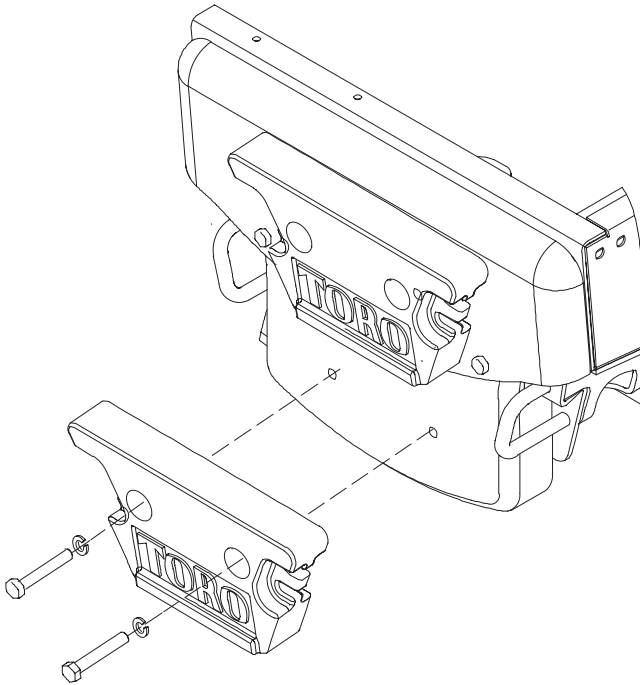

Figure 4
3. Use the lower set of tapped mounting holes in the standard weight to mount the remaining weight (Fig. 4). Use (2) 1/2-13 x 1-1/2" lg. capscrews (not provided) and lockwashers to mount the weight.